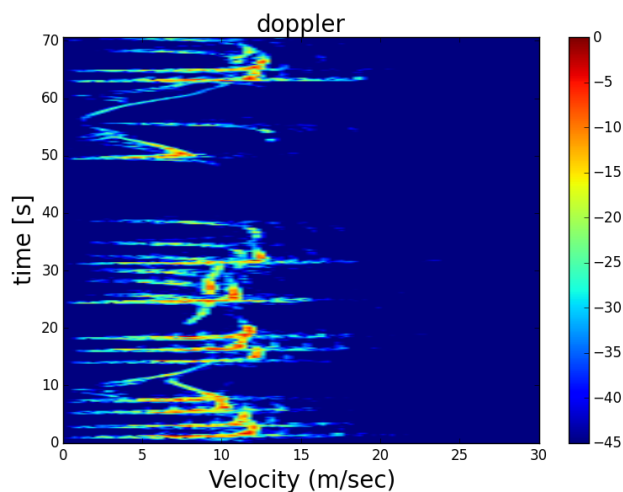

Figure 9: Velocity-time plot for data in “highway\_doppler.wav”.
4. A Python script “doppler.wav.m” is available at this link to analyze the data. An example .wav file named “highway\_doppler.wav” can be analyzed for you to get an idea of the expected outcome. Fig. 9 shows the velocity-time plot of the data in “highway\_doppler.wav”. Fig. 9 shows the velocity-time plot for the data in “highway\_doppler.wav”. Each streak corresponds to a car passing by the radar which is mounted alongside a highway. As the car passes by the radar, it’s relative speed to the direction of the radar antenna’s main beam is very small but increases quickly as the car moves away from the radar.